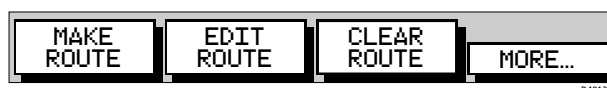

Figure 3-29: Route Soft Keys
3. Press the ROUTE soft key; the route soft keys are displayed as shown in Figure 3-29.
The Route soft keys is displayed as shown in *Figure 3-29*: